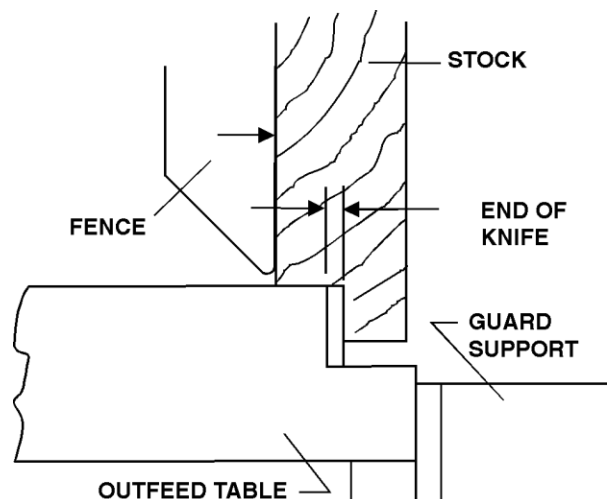

Fig. 13
7. Using a shop scale placed flat on the end of the cutterhead. Slide the knife out until it is flush with the end of the shop scale. Set the knife locking gib 1/32 inch in from the end of the knife, Figure 13.